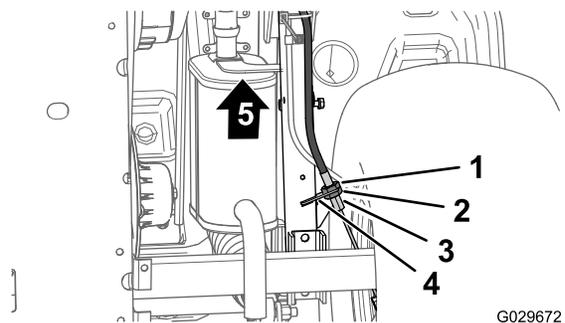

Figure 68
3. At the bottom of the machine, loosen the rear jam nut for the threaded adjuster of the parking-brake cable 4 turns (Figure 68).
4. Tighten the forward jam nut (Figure 68).
- A. Loosen the forward jam nut (Figure 68) for the threaded adjuster of the parking-brake cable 1 turn.
- B. Tighten the rear jam nut (Figure 68).
- A. Loosen the rear jam nut (Figure 68) for the threaded adjuster of the parking-brake cable 1 turn.
- B. Tighten the forward jam nut (Figure 68).